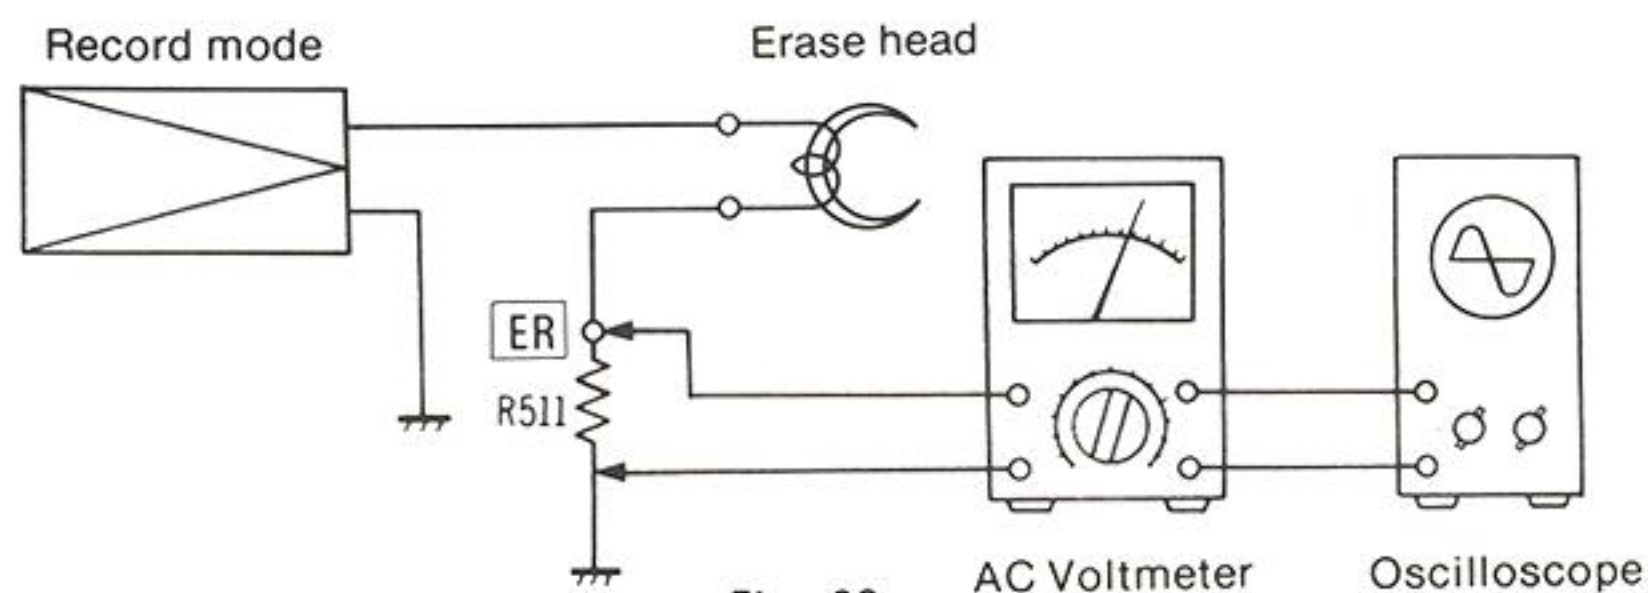
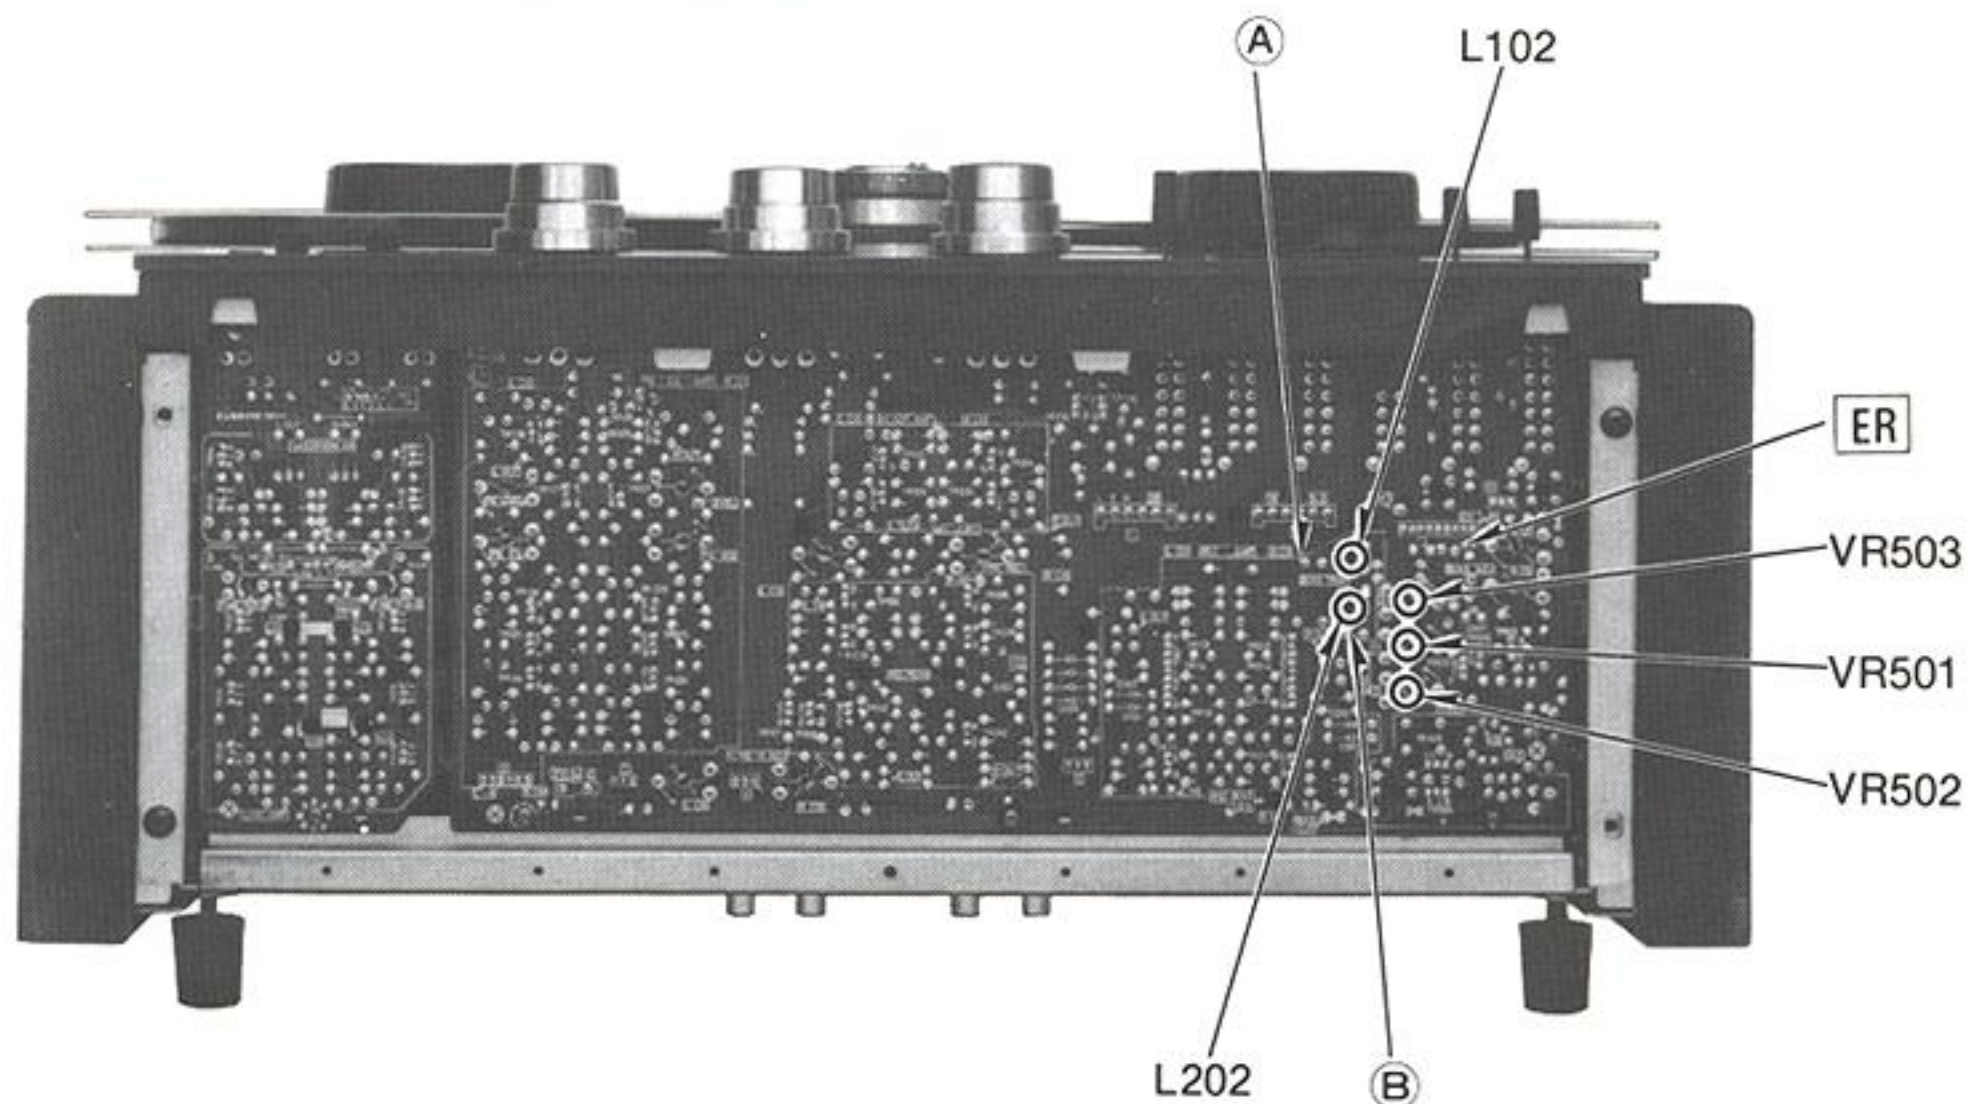

Fig. 38
Fig. 39
Erase current	1. Test equipment connections are shown in fig. 38. 2. Set the Line-in level control to minimum position. 3. Set the bias selector to "1" position. 4. Set the tape speed selector to "38" position. 5. Set the recording mode selector to "ON" (L-CH) and "OFF" (R-CH). 6. Place unit into recording mode. 7. Measure voltage at point (A) and then calculate erase current by formula below. Erase current = $\frac{\text{Value read on VTVM (V)}}{1 (\Omega)}$ Standard value: Bias selector "1" position: around 65 mA 8. Then set the recording mode selectors to "OFF" (L-CH) and (R-CH), and confirm that the above standard value can be obtained. [Adjustment] If the measured value is not satisfied, adjust the erase current adjustment VR, VR501. (See fig. 39.) 9. Next, set the bias selector to the "2" position, and confirm that the standard value shown below can be obtained. Standard value: Bias selector "2" position: around 71 mA [Adjustment] If the measured value is not satisfied, adjust the erase current adjustment VR, VR502. (See fig. 39.)
(See fig. 39.)
5. Measure and adjust bias trap coil L102 (L-CH) to obtain minimum voltage (less than 3V) at point (A).
7. Measure and adjust the bias trap coil L202 (R-CH) to obtain minimum voltage (less than 3V) at point (B).
Adjustment parts and test points (A) and (B) are shown in figure 39.